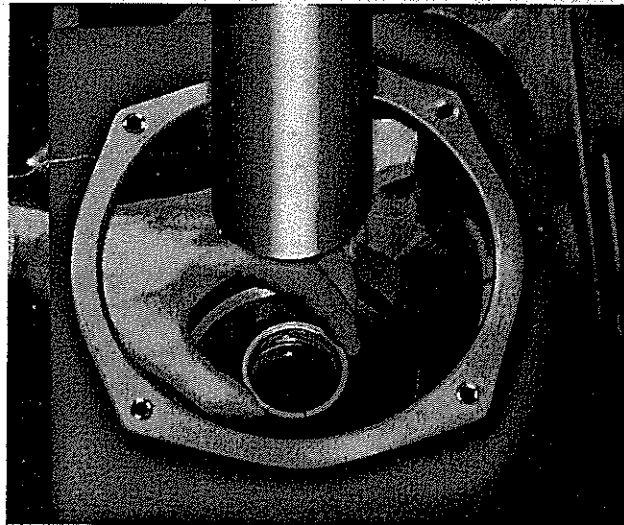

Figure 12
- a. With arbor press or close fitting pilot, press or drive oil transfer sleeve into crankcase (Figure 12). *Be sure oil holes in transfer sleeve and block line up.*